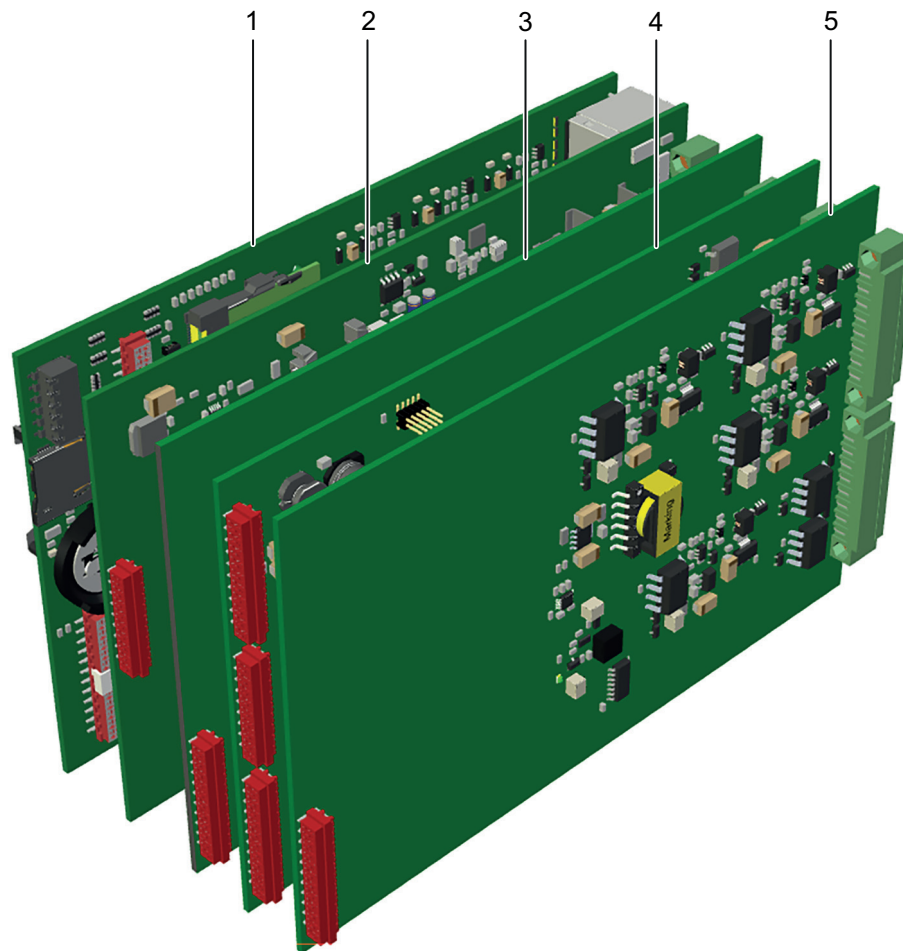

Fig. 13: Components of a stream (view from front)
- **CoM-Basis** for communication and computing (fig. 13, no. 1)
- **IOC-EX-IO** as interface to Ex zone with securely separated inputs and outputs (fig. 13, no. 2)
- **IOC-Digital-IO** as interface for digital inputs and outputs outside of the Ex zone (fig. 13, no. 3)
- **IOC-CPU** to process all analogue and digital inputs and outputs (fig. 13, no. 4)
- **IOC-Analog-Out** as interface for analogue outputs outside of the Ex zone (fig. 13, no. 5)